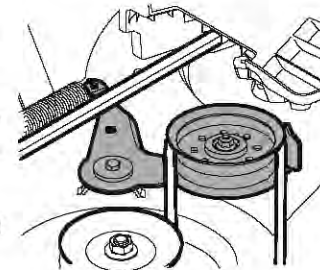

Figure 42
8. Working on the right side of the tractor, insert a 3/8" drive ratchet wrench, set to *tighten*, into square hole found on the idler bracket. See Figure 42.
9. Pivot the wrench forward to move the deck drive pulley forward. See Figure 42.